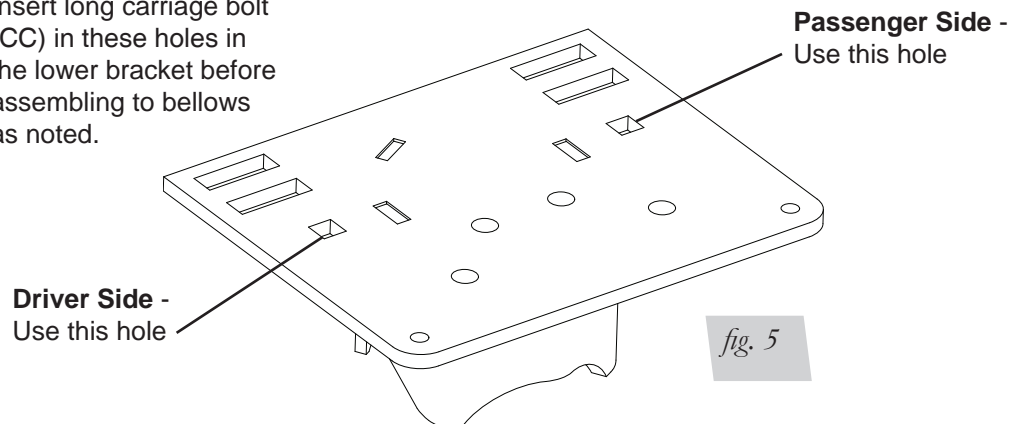

fig. 5
5. Insert one long carriage bolt (CC) into the lower bracket (A) (fig. 5).